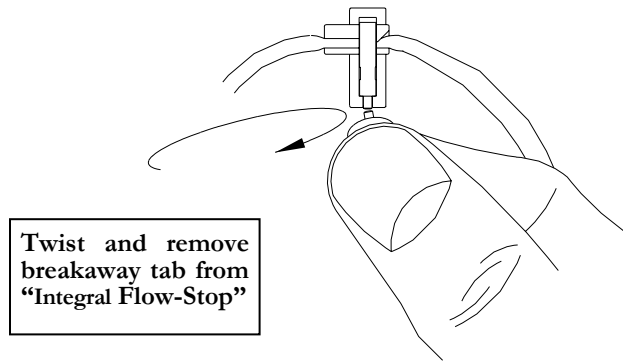

Figure 1.5 Curlin Medical Administration set "Integral Flow-Stop" with breakaway tab
- 1 To gravity prime the administration set, twist and remove the breakaway tab from the “Integral Flow-Stop”, then spike the IV bag. Squeeze the “Integral Flow-Stop” between your thumb and forefinger to allow fluid to flow through the tubing until all air is removed from the IV bag and administration set. (See figures 1.5 and 1.6.) Release the “Integral Flow-Stop” to automatically clamp the tubing. **To correctly prime a filtered set, hold the filter in a vertical position with the flow downwards allowing the filter to completely fill with fluid.**